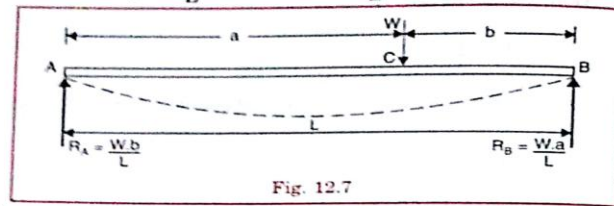

Fig. 12.7
12.7.1. Deflection of a Simply Supported Beam with an Eccentric Point Load. A simply supported beam AB of length L and carrying a point load W at a distance ' a ' from left support and at a distance ' b ' from right support is shown in Fig. 12.7. The reactions at A and B are given by,